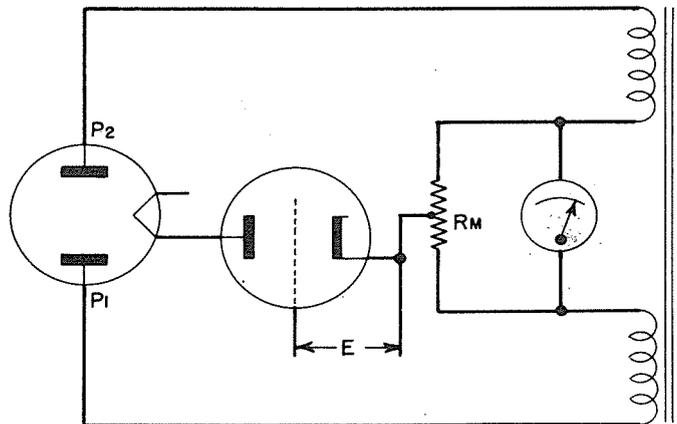

Figure 2-2. Basic Mutual Conductance Circuit Illustrating Theory
b. If the electron tube to be tested is substituted for the fixed load resistance, and a fixed bias  $E$  is applied to the tube as in figure 2-2, the meter will still read zero because an electron tube under steady-state conditions acts like a fixed resistance.